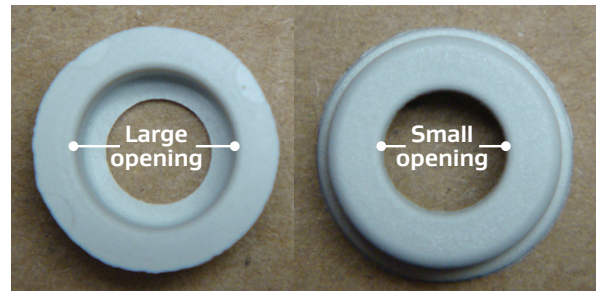

Figure 10: Support sleeve
4. Slide the support sleeve onto the cable with the larger opening facing the cable and the smaller opening facing the end of the cable (Figures 10 and 11).